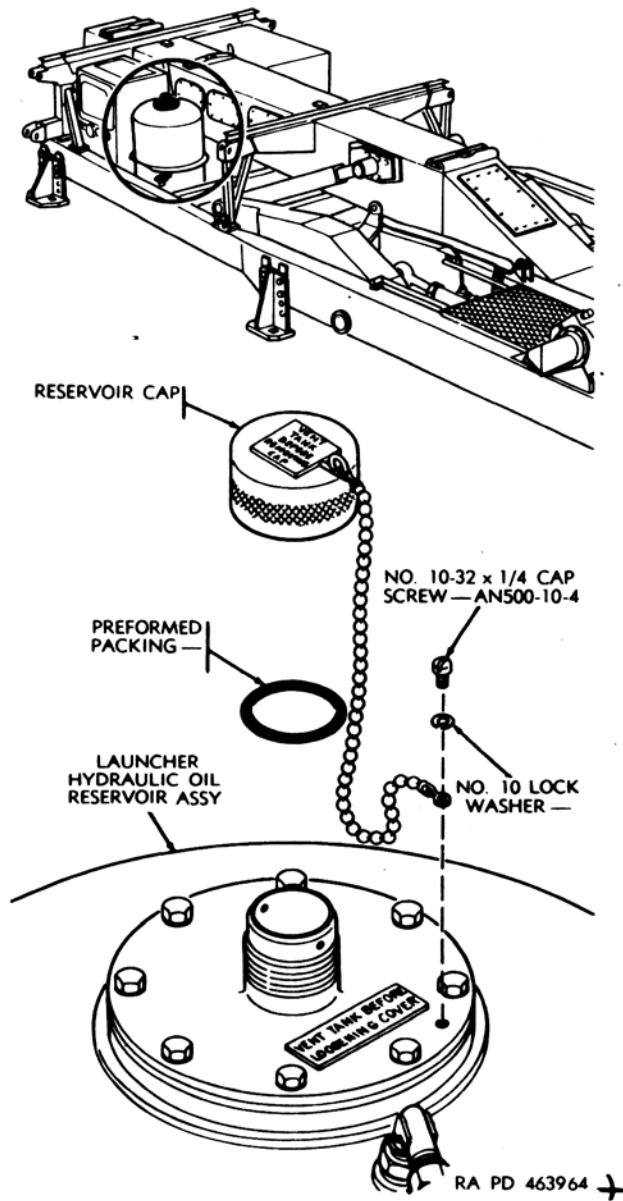

Figure 163. Reservoir cap assembly—removal and installation.
c. Reservoir Cap Assembly. The reservoir cap assembly (fig. 163) screws on to the top of the hydraulic oil reservoir assembly.
(1) Removal.
(b) Remove cap assembly (fig. 163) and preformed packing.